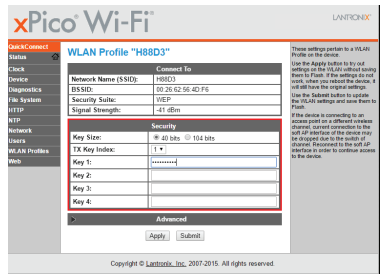

Figure 19: Wi-Fi Network Key
7. The XPico WiFi main page will open. Click on Quick Connect at the top of the menu and select the WiFi network to be used (e.g. H88d3). See Figure 19.
Note: Keys are case sensitive. Click on the Submit button. See Figure 19.